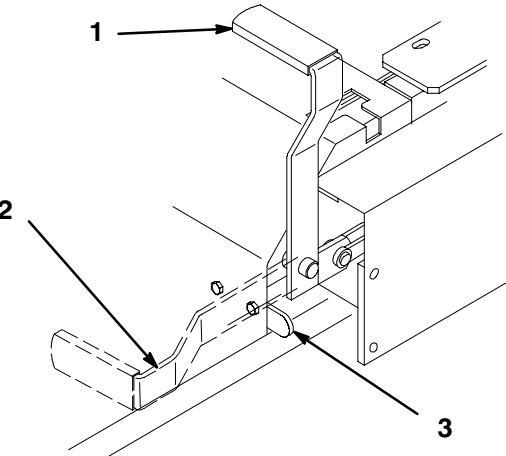

Figure 2
1. Push forward and down on the parking brake lever to release the parking brake (Fig. 2). The parking brake is “DISENGAGED” and the lever rests against the brake stop.
2. Pull back and up on the parking brake lever to set the parking brake (Fig. 2). The parking brake lever should stay firmly in the “ENGAGED” position.